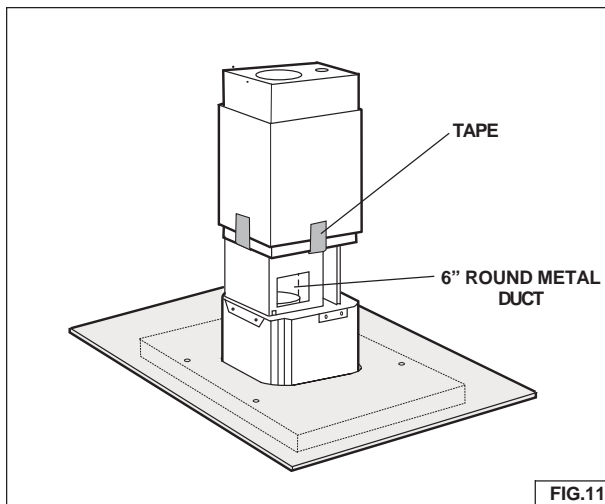

FIG.11
1. Use **6" round metal duct** to connect the discharge collar on the hood to the ductwork above (Fig. 11).
3. Remove the tape from the lower flue and set it in place on the hood (Fig. 11).